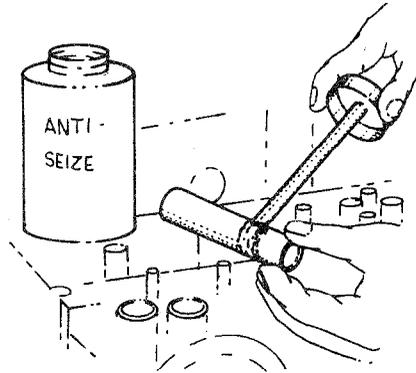

Fig. 12 — Applying Anti-seize to the Nozzle Sleeve
- a. Before installing the new sleeve, coat both ends of the sleeve with anti-seize (see fig. 12).